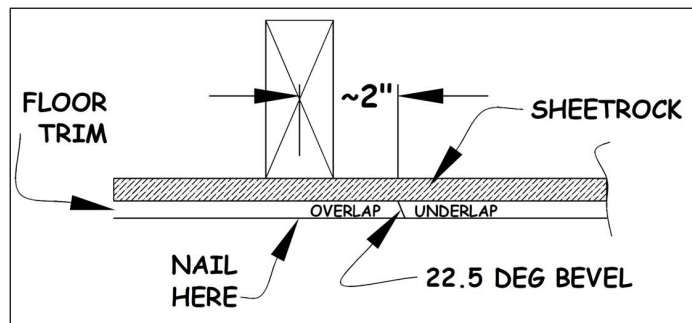

Figure 19-4. Overlapping Trim Splice.
6. When a splice is required, cut two trim pieces with matching 22.5° bevel angles. Cut the overlapping piece with the face side longer and the underlapping piece with the unfinished side longer. Plan these two pieces so the overlap is angled away from the main viewing area of the room. The overlapping piece should end about 2" past a stud so the splice can be securely nailed to the stud (see Figure 19-4). Nail the underlapping piece first along its entire length into each stud. Glue the ends of the splices, place the overlapping trim piece in position, and nail it directly into the stud. The overlapping piece should hold the underlapping in position snugly. Clean any glue residue from the splice before it dries.